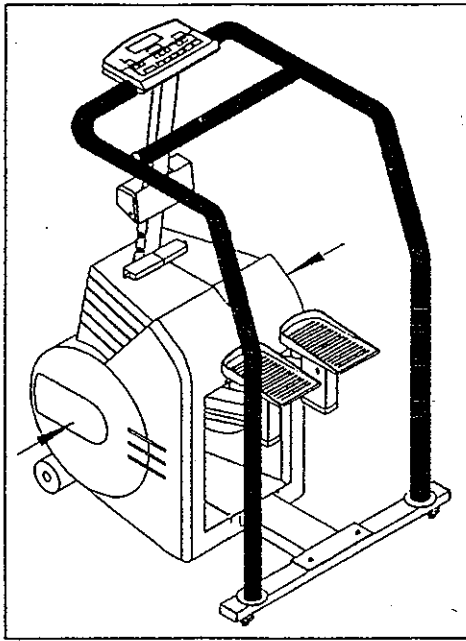

Fig. 20
7. Replace the main shroud and tighten with screws (see Fig. 20- 21).